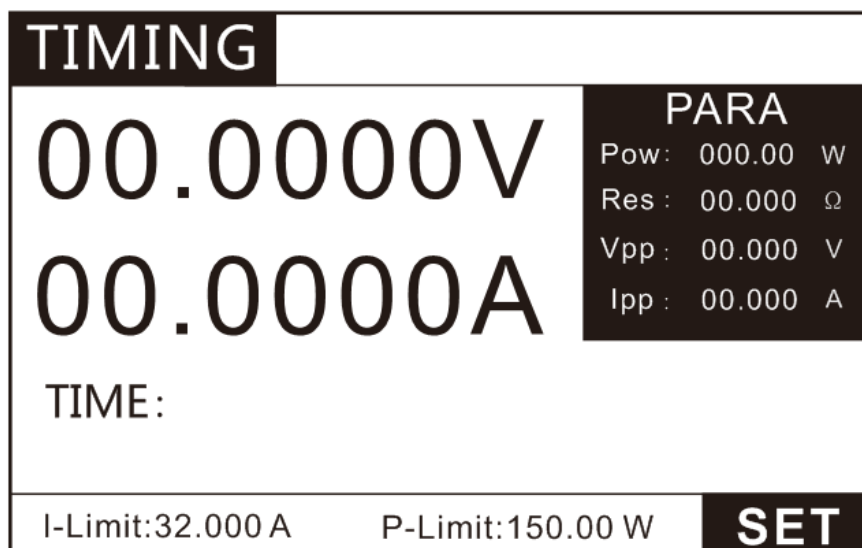
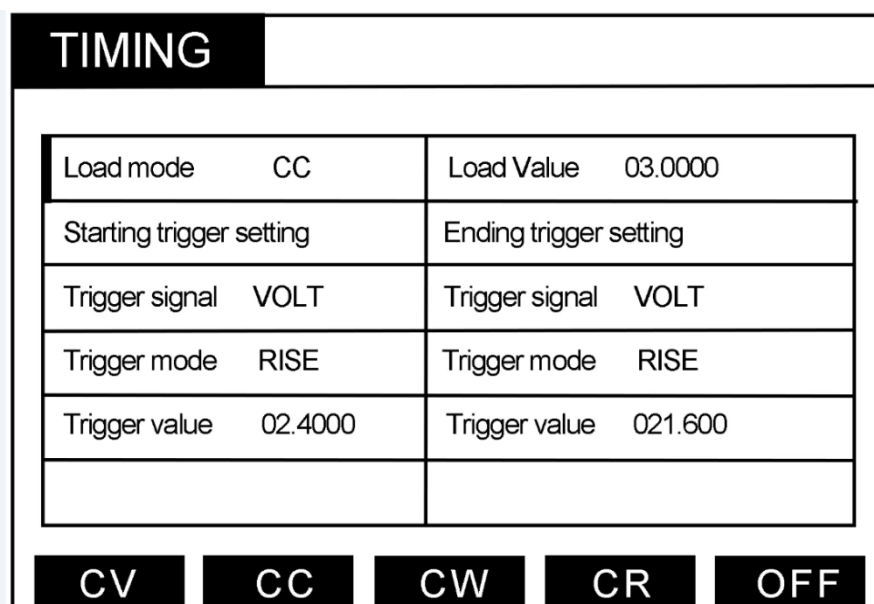

Figure 3.30 TIMING mode testing Page
Figure 3.31 TIMING mode setting interface
1. Press the key **MODE** to enter the mode selection page, press the up and down keys to select TIMING, and press the key **ENTER** to enter the TIMING test interface diagram shown in Figure 3.30.
2. As shown in Figure 3.30, in the TIMING interface, press the key **SET** to enter the setting interface shown in Figure 3.31.
3. Set the load parameters according to the values shown in Figure 3.31. the waiting time is from the load detection to the rising edge of 2.4V to the load detection to the rising edge of 21.6V, is equal to the climb time of the power supply. The minimum detection time is 100uS.